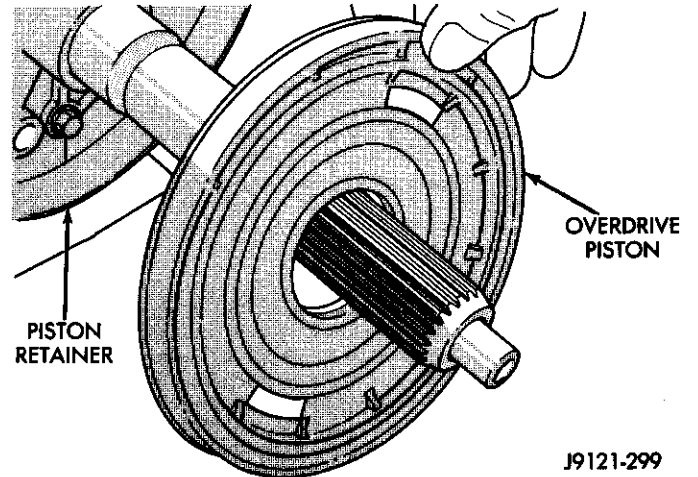

Fig. 3 Removing Overdrive Piston
- (3) Remove overdrive piston from retainer (Fig. 3).